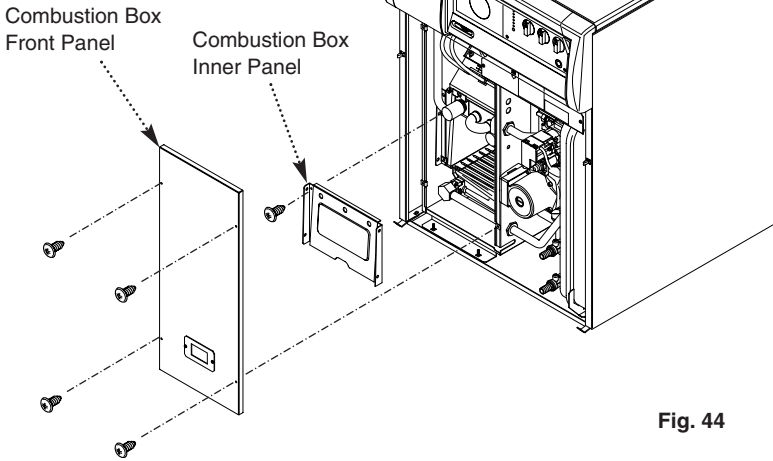

Fig. 44
6. Undo the screws securing the combustion box front panel. Remove the panel (Fig. 44).
7. Undo the screws securing the combustion box inner panel. Remove the panel and examine the insulation piece (Fig. 44).